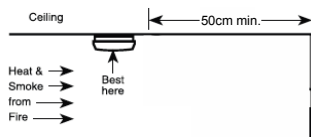

Fig. 3 – Smoke & heat alarm location from walls
Install smoke & heat alarms as close to the centre of the ceiling as possible, away from light fittings and air-conditioning ducts. If this is not practical, put the alarm on the ceiling, no closer than 50 cm from any wall or corner as shown in Fig. 3.
- In dead air spaces, which are often at the top of a peaked roof or in apex of ceilings and walls. Dead air may prevent smoke from reaching a smoke & heat alarm. See Fig. 3 and 4 for recommended mounting locations.